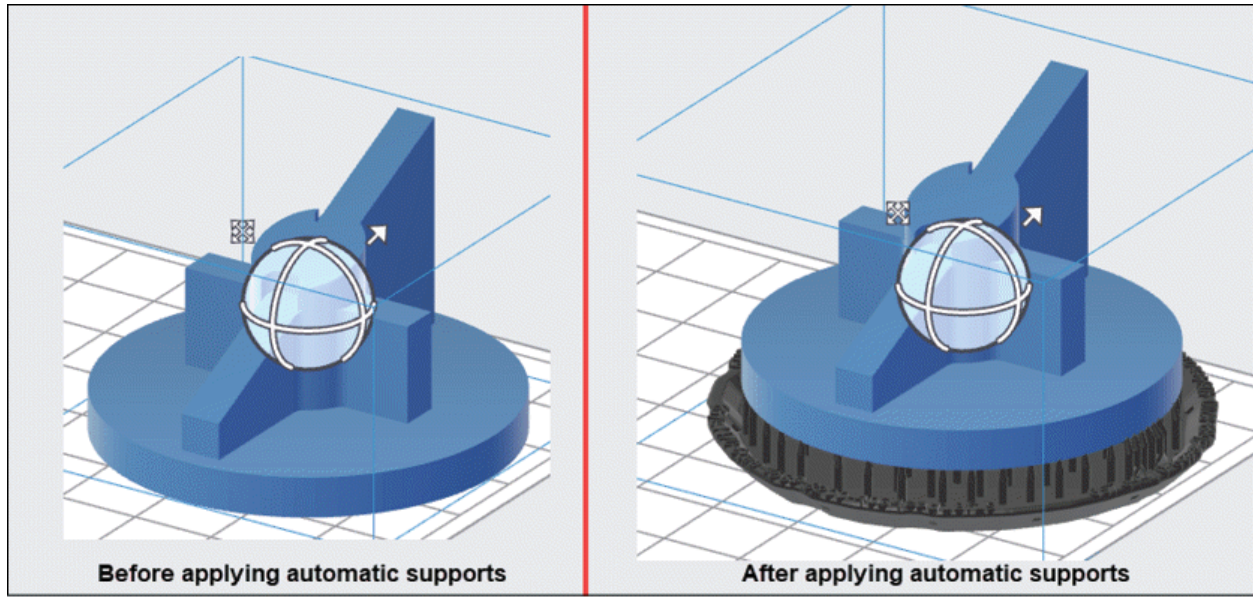

Figure-58. Applying supports
- Click on the **Auto-Generate Selected** button to automatically generate support features for the selected model; refer to Figure-58. Note that using this button, only positions of support elements are decided. It does not automatically decides the shape and size of support elements. So, you should click on this button after you have specified the parameters for supports in the toolbox.